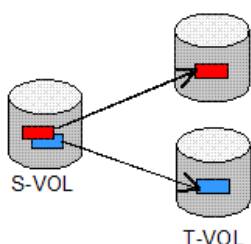

Figure 122 Overlap of Copy Source Extents
- Two source extents overlap, or one of them is an inclusive part of the other (see Figure 122), provided that the number of overlapping extents in each overlapped area is not more than 16 extents.